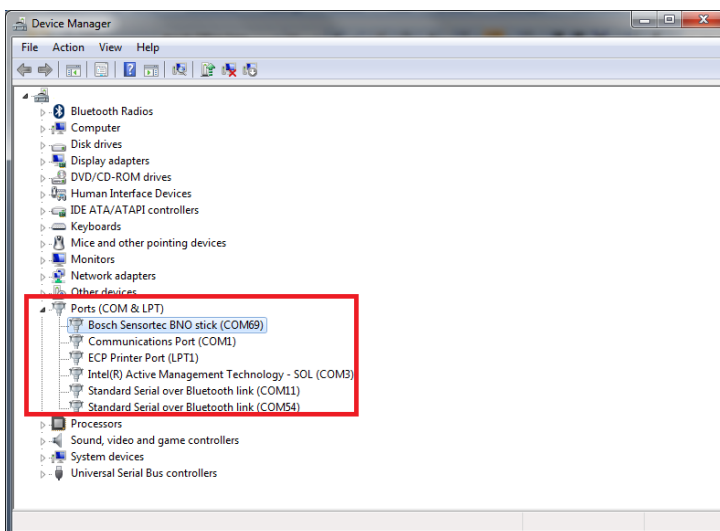

Figure 4: Device Manager
- 1) Make a note of COM port number of Bosch Sensortec BNO stick under Ports in device manager, if the driver is installed successfully as “Figure 4”.
- 3) In Communication interface window, select “Figure 4” noted COM port number from communication channel drop down.